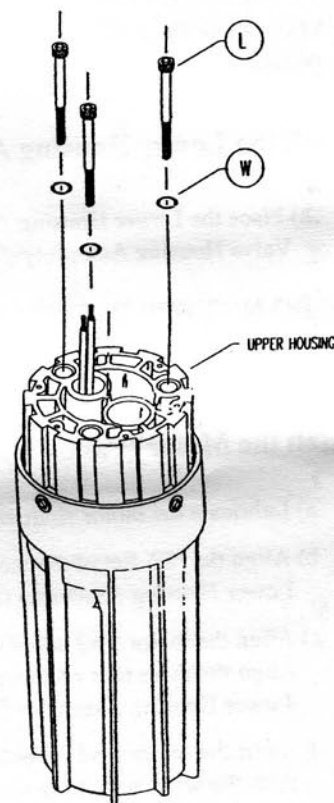

FIGURE 13
**8) Turn the assembly over as shown in Figure 13.**
**9) Install the Lock Washers (Part W) and Screws (Part L) (Fig. 13).**